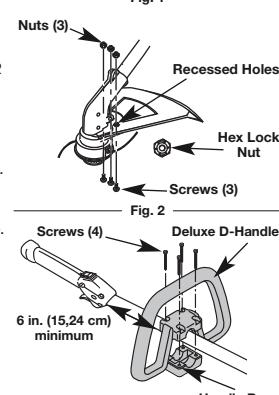

Fig. 3
- While holding the unit in the operating position (Fig. 3), move the D-handle to the location that provides you the best grip.